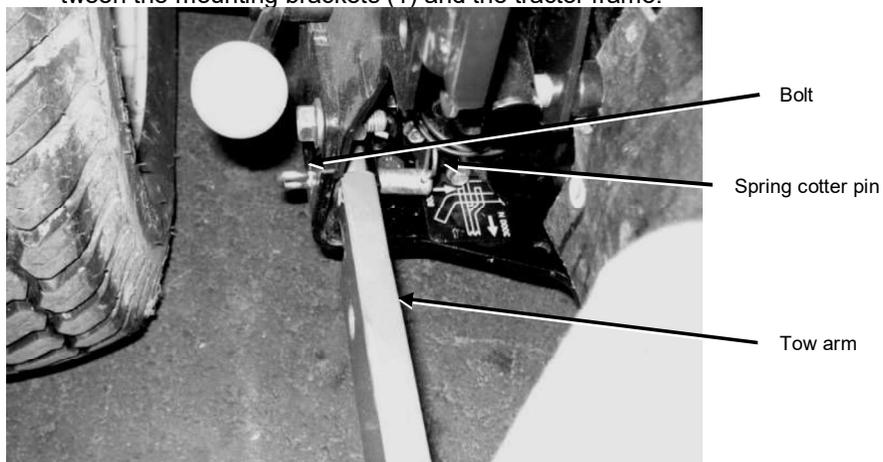

Fig. 44: Tow arm mounting on the tractor
9. Remove the bolt connection between arms and tractor (see Fig. 44) and push the implement back a short distance.